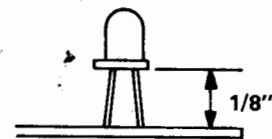

FIGURE 5 LED INSTALLATION
- D1,D2,D3,D4,D5-Small Red LED (Note Flat Side also Elevate 1/8" from board. (Fig. 5))
- () Referring to the Overlay (Fig. 3) and Fig. 5, install and solder all 5 LED's (D1-D5).